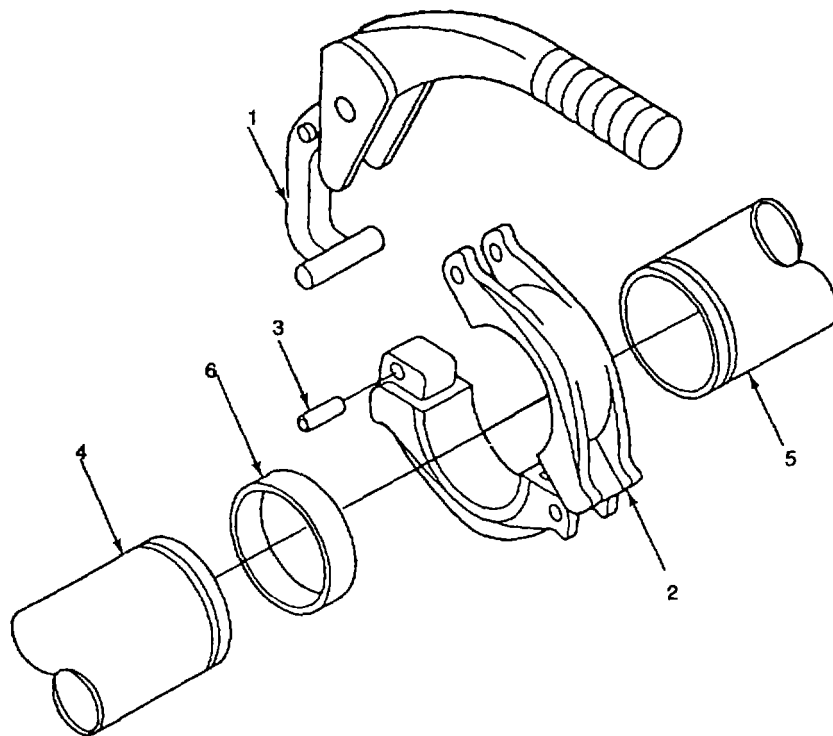

Figure 2-7. Boltless Coupling
(5) Empty hose is easily blown by strong winds, causing damage to installations and equipment. To avoid high wind problems, fill newly-laid hose with water as soon as possible. Once lead pump and first boost pump are connected by hoseline, see operating procedures and fill hoseline.
(6) During hose-laying operations, it is essential that operators at pumping stations and storage assemblies communicate with each other and with hose-laying crews. If a problem develops with the hose-laying operation, immediately notify operators who are packing hoseline. If a problem occurs when hoseline is packed, immediately notify hose-laying supervisor and other operators.
- b. Boltless Coupling Installation (Figure 2-7). Follow this procedure when using a boltless coupling to connect two grooved TWDS components.
- (6) Install damping wrench (1) on boltless coupling (2) and depress coupling.
- (7) Install pin (3) to secure coupling halves together.
- (8) Release and remove clamping wrench (1).
- c. Boltless Coupling Removal (Figure 2-7). Follow this procedure when removing a boltless coupling that connects TWDS components.
- (1) Install damping wrench (1) on boltless coupling (2) and depress coupling.
- (2) Using drive pin punch (Item 3, Appendix B), drive out pin (3).
- (3) Release damping wrench (1) from boltless coupling (2).
- (4) Open up boltless coupling (2) from grooved fittings (4 and 5).
- (5) Slide gasket (6) away from center position between grooved fittings (4 and 5).